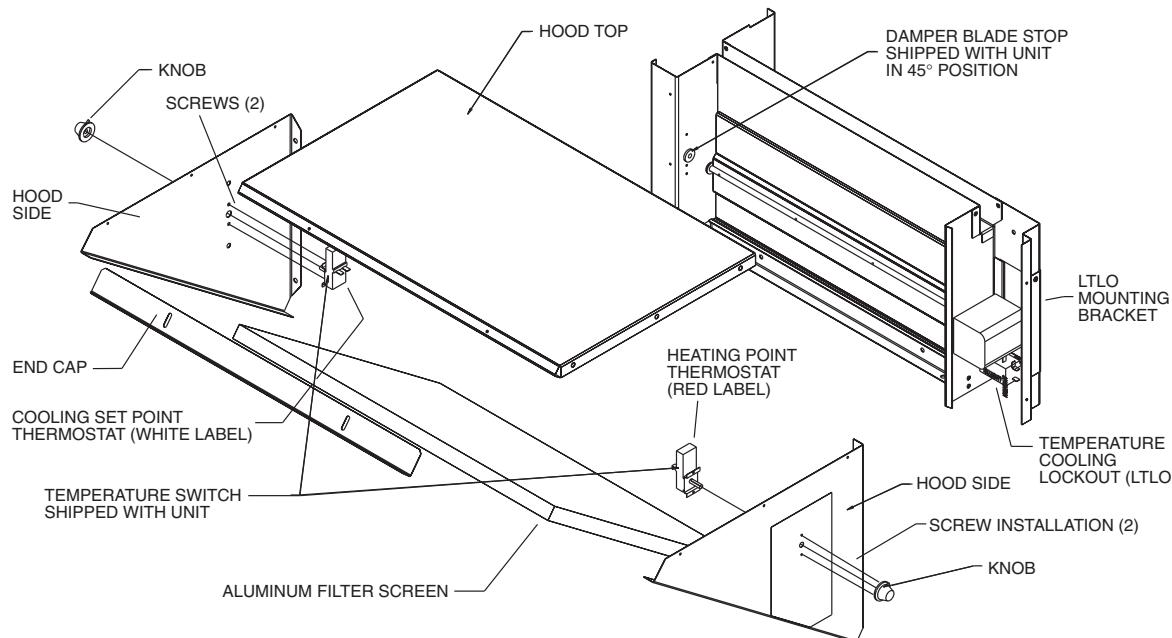

Fig. 11 — Energy Recovery Section Supply-Air Hood Assembly
Hood — The hood kit supplied with the energy recovery section is needed to complete this installation. See Fig. 11. The energy recovery section supply air hood installs around its motorized damper inlet.
1. Assemble and mount supply air hood as shown in Fig. 11.
2. Discard the tape that holds the thermostats behind the damper plates. Mount thermostats to the hood sides of the energy recovery section unit into the holes provided, with thermostat terminals facing up. See Fig. 11. Mount outside cooling set point thermostat part number HH22HA060 (white label) on the left side of the hood. See Fig. 11.
3. Mount the outside heating thermostat part number HH22HA065 (red label) on the right side of the hood. See Fig. 11.
4. From the outside of the unit's side panels fasten the thermostat(s) with two mounting screws, with the quick connect terminals face up. See Fig. 11.
5. Install thermostat knobs (provided in kit). See Fig. 11.
6. Set supply air quantity (on units with optional factory-installed supply air fan [GA] or field-installed accessory supply air fan kit [CRFANKIT001-006A00]). Select the fan speed and damper position to obtain desired cfm. Relocate damper stops to the desired position on the damper support rail and adjust the fan speed by relocating the wire on the supply fan motor terminal block. Factory set position is 45 degrees for the damper position, and medium speed for the motor. Relocate stops to top hole for 30 degrees, bottom hole for 60 degrees, and remove stops for 90 degrees (see Fig. 11).
7. Install the aluminum filter screen and end cap with screws along the top, as shown in Fig. 11.